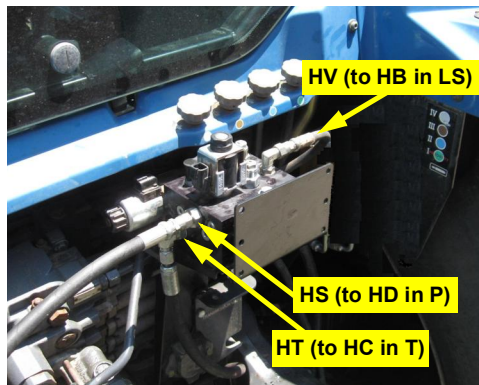

Figure 8b: Pressure, tank and load sense hoses connected to steering block
- c. Connect the load sense hose **HV**, connected to the load sense shuttle and routed to the steering block at step 6e, to fitting **HB** in the **LS** port of the hydraulic steering block (Figure 8b).